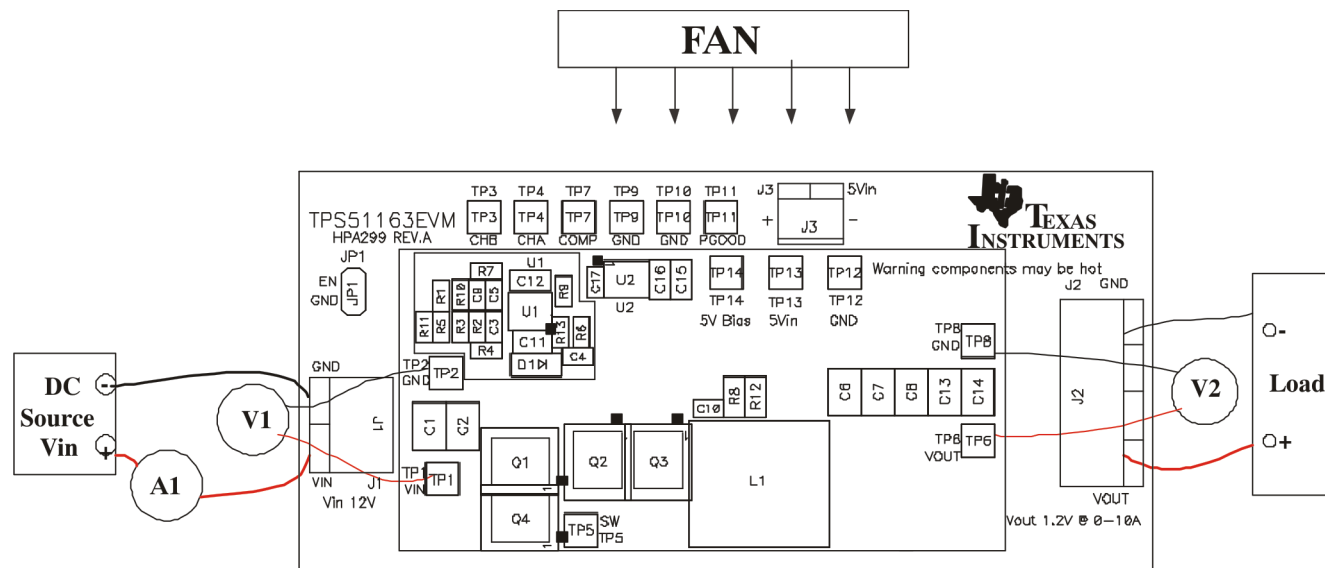

Figure 7-2. TPS51163EVM Recommended Test Setup
The input voltage source V_{IN} should be a variable DC source between 0 V and 14 V, capable of supplying 10 A. Connect V_{IN} to J1 as shown in Figure 7-2.
A voltmeter with a range between 0 V and 14 V should be used to measure V_{IN} at TP1 (V_{IN}) and TP2 (GND). A voltmeter with a range between 0 V and 5 V for V_{OUT} measurement at TP6 (V_{OUT}) and TP8 (GND). A current meter with a range between 0 A and 10 A (A1) as shown in Figure 7-2 is used for input current measurements.
Figure 7-2 is the recommended test setup to evaluate the TPS51163EVM. Working at an ESD workstation, make sure that any wrist straps, bootstraps, or mats are connected referencing the user to earth ground before power is applied to the EVM.
1. Prior to connecting the DC input source V_{IN} , it is advisable to limit the source current from V_{IN} to 10 A maximum. Make sure V_{IN} is initially set to 0 V and connected as shown in Figure 7-2.
Place a fan as shown in Figure 7-2 and turn it on, making sure air is flowing across the EVM.
1. Set up the EVM as described in Section 8.1 and Figure 7-2.